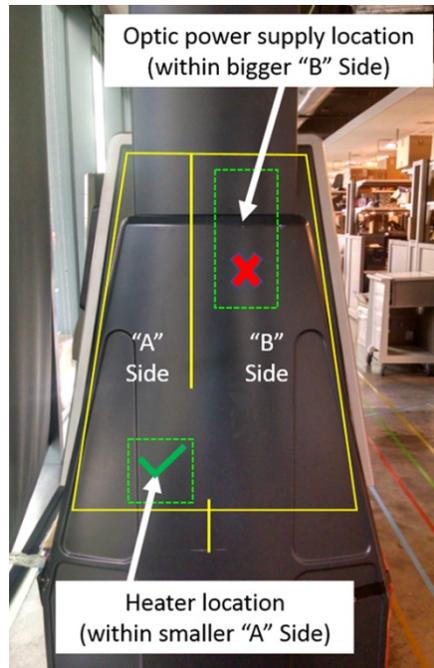

Figure 236
- 8) Mount the heater on "Side A" of the dispenser so that it is not directly under the OPTIC power supplies and their associated cabling, which are in the larger top cavity of "Side B". See Figure 236 below.